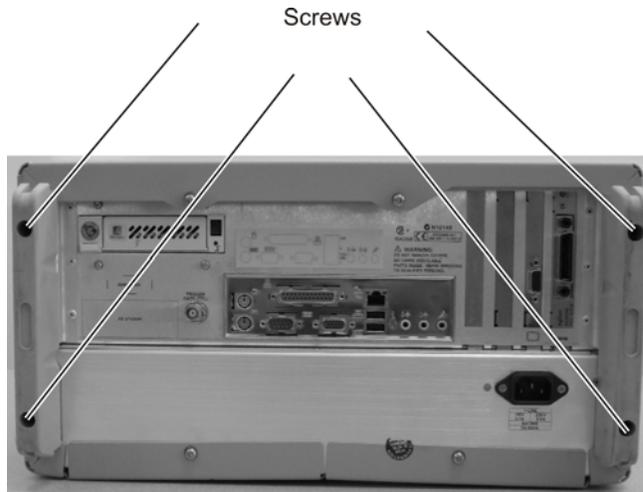

Figure 6-1. Removing the Rubber Feet
- 3 Use a T-20 TORX driver to remove the four screws that attach the two rubber feet to the instrument's rear panel, as shown in Figure 6-1.